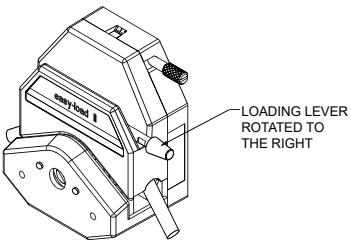

Figure 3 Close Pump
4. Rotate the loading lever to the right to close (see Figure 3).